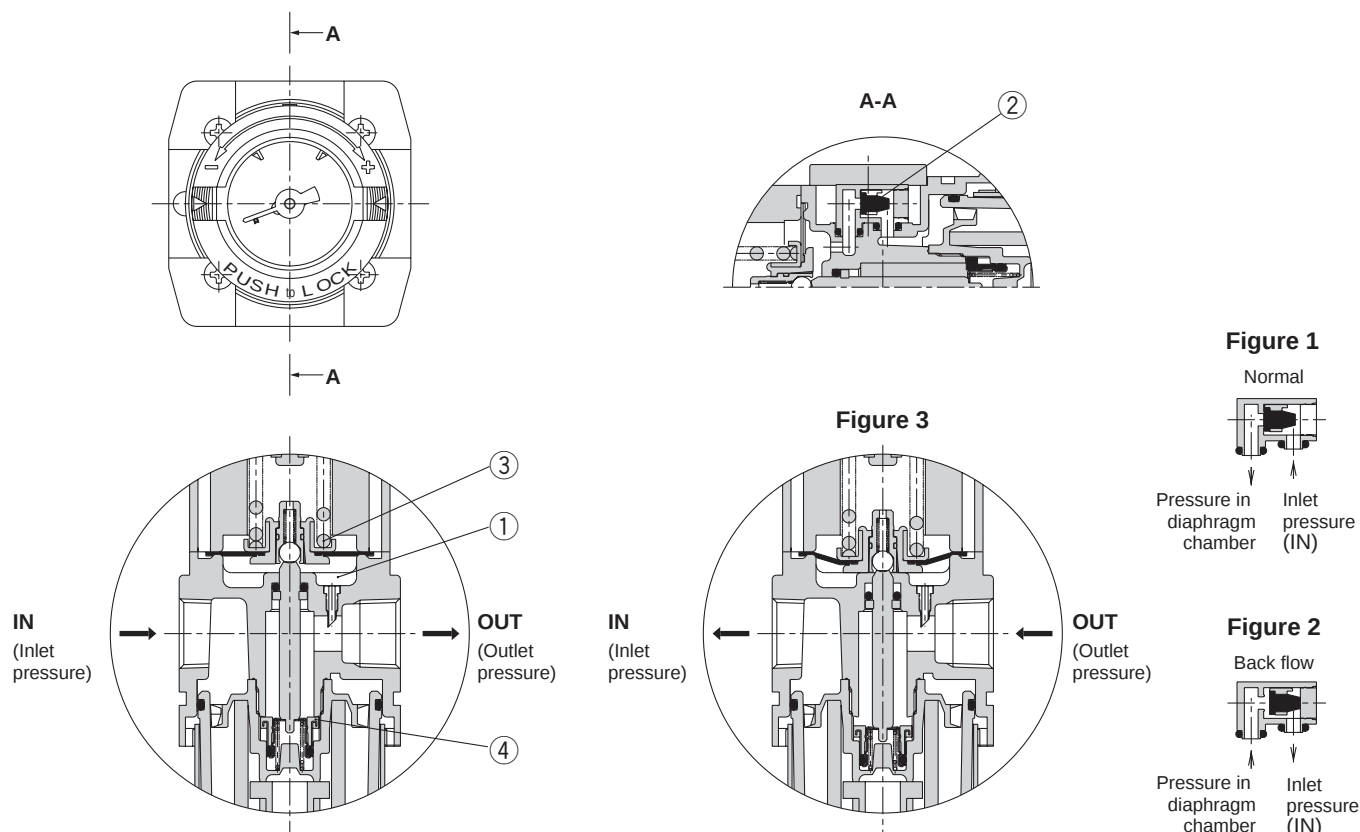

Figure 1
When the inlet pressure (P1) is higher than the regulating pressure, the check valve ② closes and operates as a normal regulator (Figure 1).